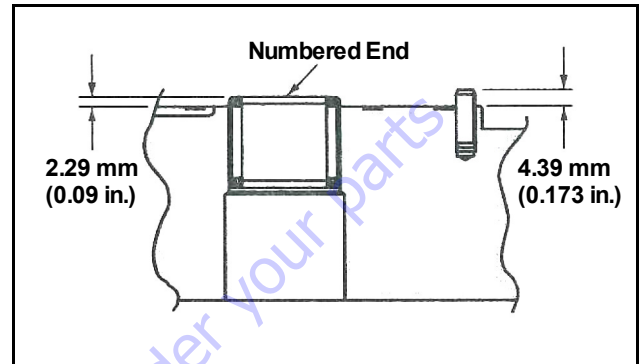

Figure 5-153. Endcover Inspection
- Check the bearing (press fit) in endcover. If needles remain in cage, move freely, and setting is at the dimension shown in Figure 5-153. removal not required.
- Check roll pin in endcover. If tight and set to the dimension shown in Figure 5-153. removal not required.